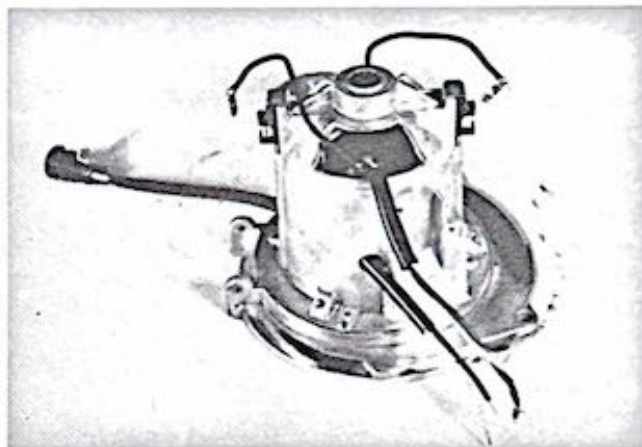

Fig. 1-66
2. Insert field into motor casting in the same related position as in figure 1-66